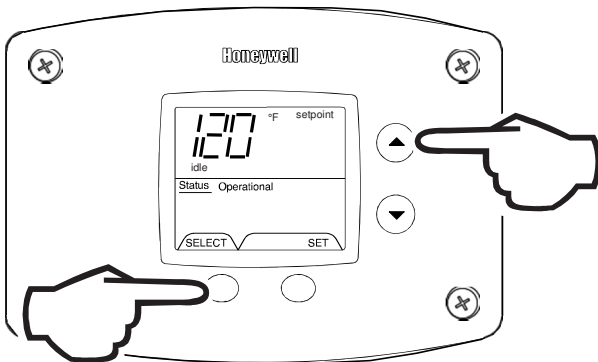

Fig. 69
7. 10 seconds after the last button press, the Water Heater Display will revert back to the current error code display. To exit Service Mode, either wait 30 seconds or press Temperature Up button and Select Button for 3 seconds (Fig. 69).